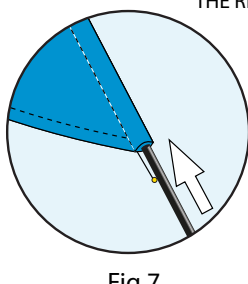
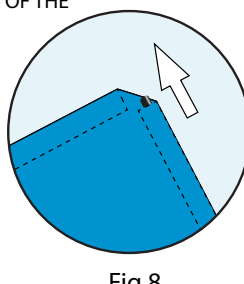

Fig 7.
Fig 8.
11. Take the 2.5m (28mm) top pole section with the cleat and joint at the bottom, and insert it into the bottom of the vertical sleeve. (Fig 7) Push it all the way up until it comes out the top of the sleeve. (Fig 8)